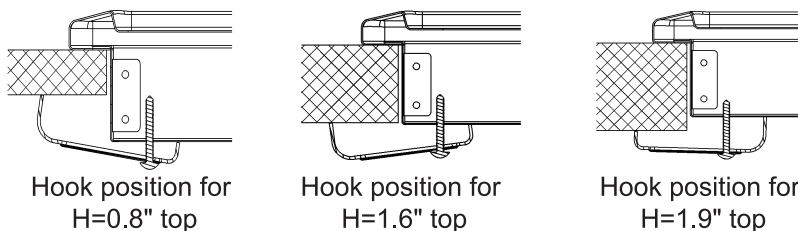

Fig.11
- f. Fixing fittings(hooks, screws) are provided to place the cooktop on worktop, the worktop measure 0.8" to 1.9" in thickness(Fig.11).